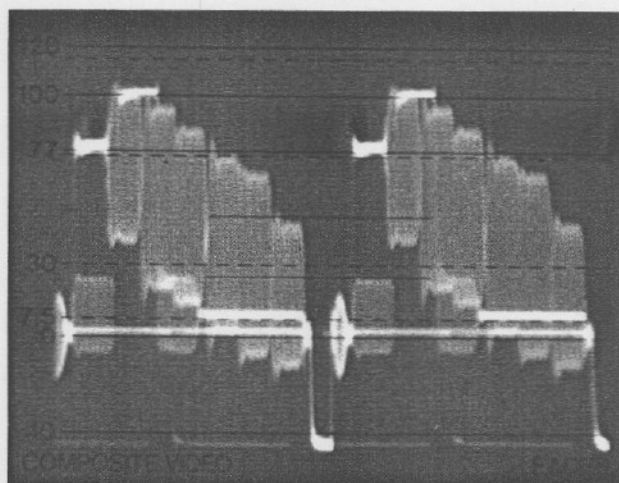

Figure 2-16. VCR playback
**Luminance level:** For the 75% white bar in full field bars the correct level is 77 IRE. See Figure 2-16. For EIA type bars (100% white chip below yellow and cyan in the lower quarter of the picture display) the correct level is 100%.
**Chrominance level:** Correct chrominance level is indicated for 75% color bars when the positive peaks of subcarrier on the yellow and cyan bars are at the 100 IRE level. See Figure 2-16.